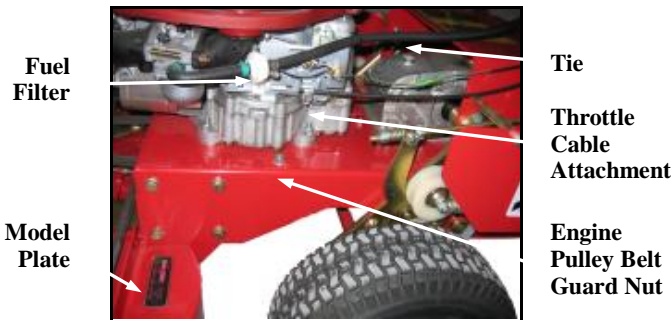
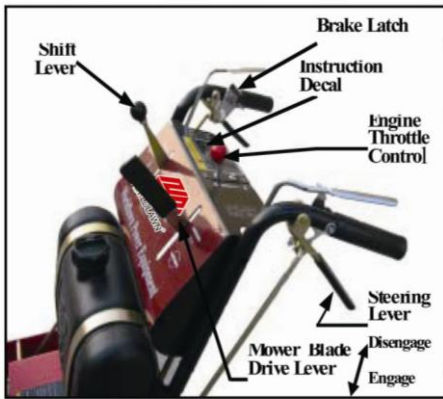

FIG 1 Throttle and Fuel Line Attachment
FIG 3 Mower Controls
Record (See FIG 1)
The Handlebars and Control Linkages may not be completely installed on the Mower. Connectors may be disengaged. Attach the Handlebars with two bolts on each side as shown in FIG 9. Attach Throttle Cable to the Engine as shown in FIG 1 and in the Engine Operating & Maintenance Instructions. Each of the Control Rods must be connected as shown in FIG 3 & 10. Follow the instructions to properly adjust each of the controls. The Fuel Line should be connected to the Engine Fuel Filter and attached to the Engine with one Tie. Tighten the Fuel Clamp Screw FIG 1. Attach the Discharge Chute FIG 7. Attach the LH & RH Front Caster Wheel Arm Assembly to the Mower Deck with 4 bolts in each Arm.
3. Grease Fittings are provided on important parts requiring lubrication. See FIGS 3 & 10.
**STARTING THE ENGINE FIG 3**
1. See that the Blade Drive Lever is disengaged and the Transmission is in neutral. FIG 3.
**STOPPING THE ENGINE FIG 3**
**BLADES AND WHEEL DRIVES FIG 3**
1. Be sure that Mower Blade Drive Lever is disengaged and both Brake Latches are locked. FIG 3.